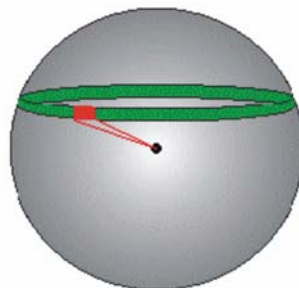

Figure 4 – Navigator G4's gyro aiding
1. It shortens reacquisition times when a GPS heading is lost due to obstruction of satellite signals. The gyro reduces the search volume required for solution of the RTK by providing a relative change in angle since the last computed heading. When used in conjunction with the tilt sensor, the search space is reduced to a wedge-shaped range (see Figure 4).